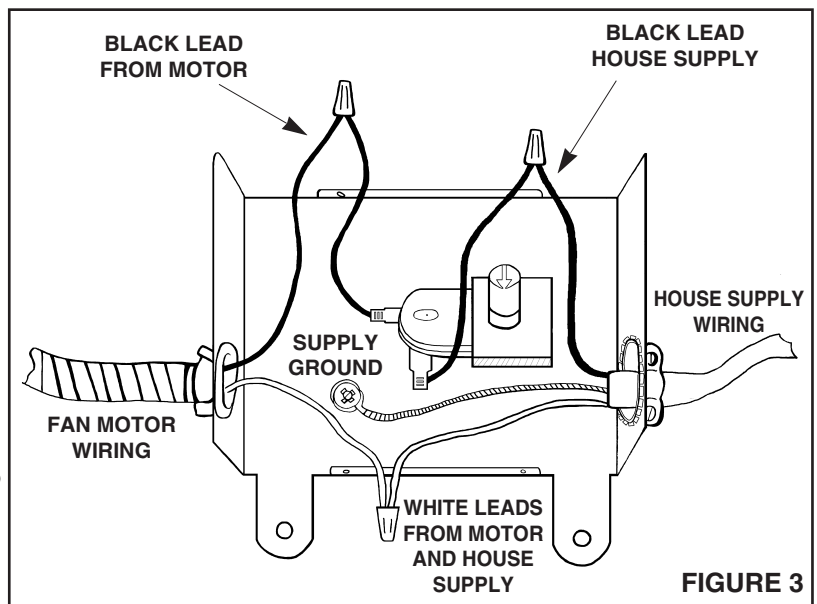

FIGURE 3
1. Refer to Figure 3. Run 120vAC wiring to the outlet box and secure with standard box connector.